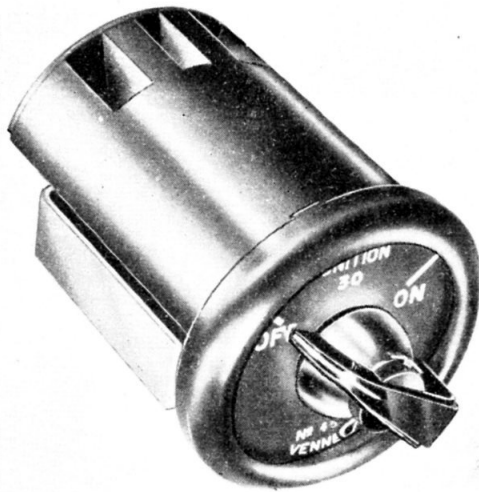

Fig. 1. Time switch, Type PTC/DH/30
1. The time switch, Type PTC/DH/30 (fig. 1) is a clockwork-driven ignition switch in which the action of setting the pointer winds the spring and starts the timing period of 30 seconds.